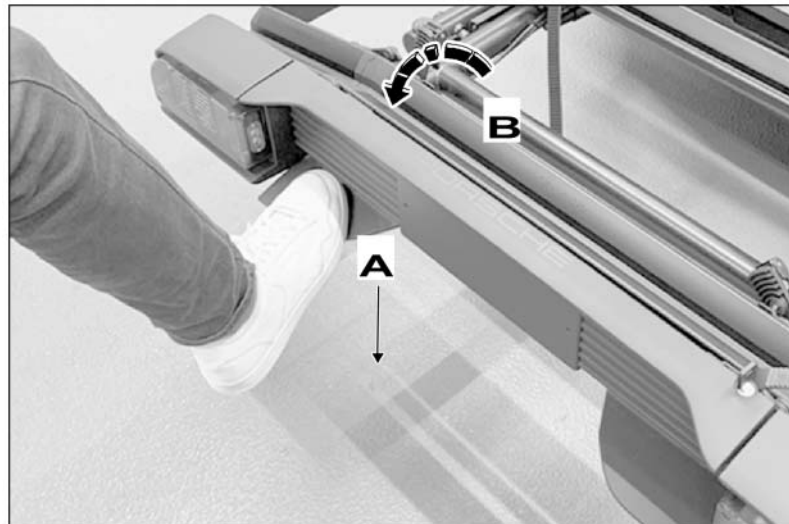

Figure 24
24. – Fold down the bike carrier. Exert pressure on the pedals ⇒ *Figure 24 -LHD vehicle* - (marked area between tail light and number plate) (either at the left or right pedal). This allows you to move the upper part of the bike carrier ⇒ *Figure 24 -RHD vehicle* - and fold it into the desired position by pulling on the bar.